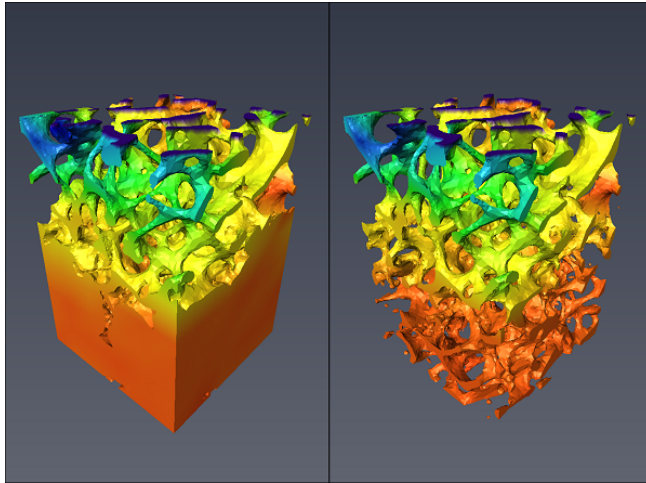

Figure 19.19: Tetragrid Visualisation (left - cement/bone ; right - bone)
- Load tetrahedral grid data `data/tutorials/xvolume/mcorrelation/BCI_reference3.labels.tetra.am` (Figure 19.19).